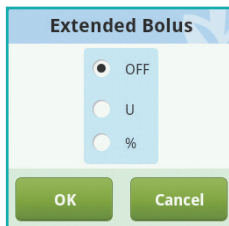

Figure 24
c) Choose the Extended Bolus setting to open a dialog box (Figure 24) that will give you options.